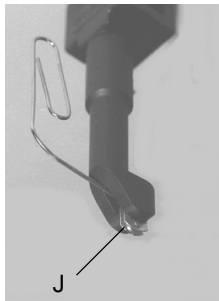

Figure 4
The cutting wheel should last a long time if properly cared for and not damaged, but If necessary, it can be easily replaced. Pry the wheel and its metal clip (J) out of the slot in the cutting head with a paper clip as shown in Figure 4. Slide a replacement wheel unit (Order #03-131) in the slot as far as it will go.